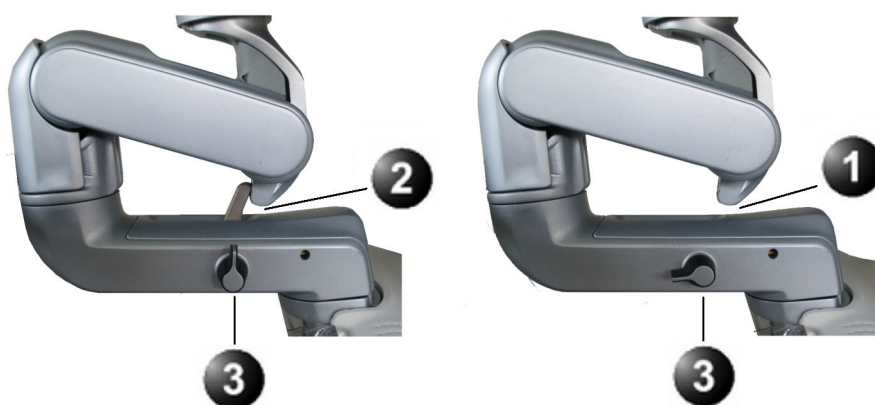

Figure 4-8 Positioning the LCD Monitor
- 2) Hold the upper part of the LCD monitor to adjust the position of the monitor (Figure 4-8).